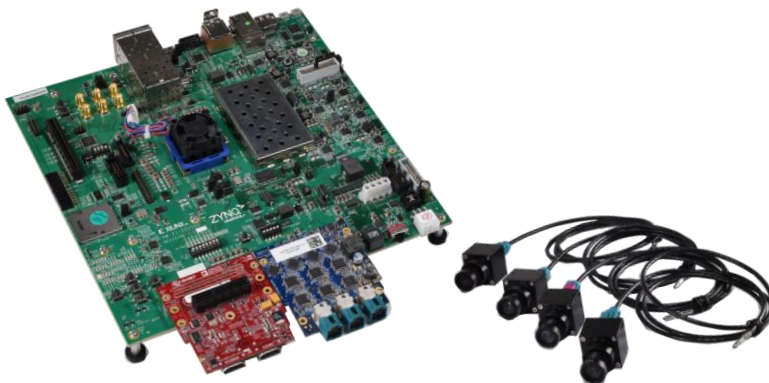

Figure 4: Xylon logiVID-ZU-FPD3 Vision Development Kit
- Xylon video cameras with the TI[®] **FPD-Link III** high-speed digital video interface (Figure 4.):